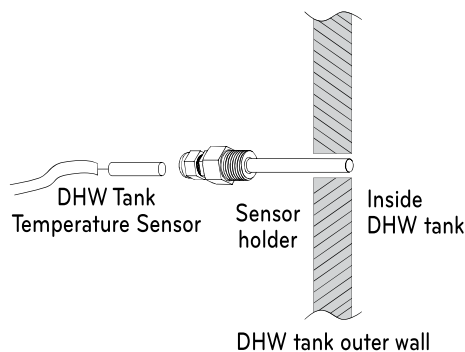

Fig. 2
* The sensor should be mounted correctly to the sensor hole of DHW water tank like below fig. 2.